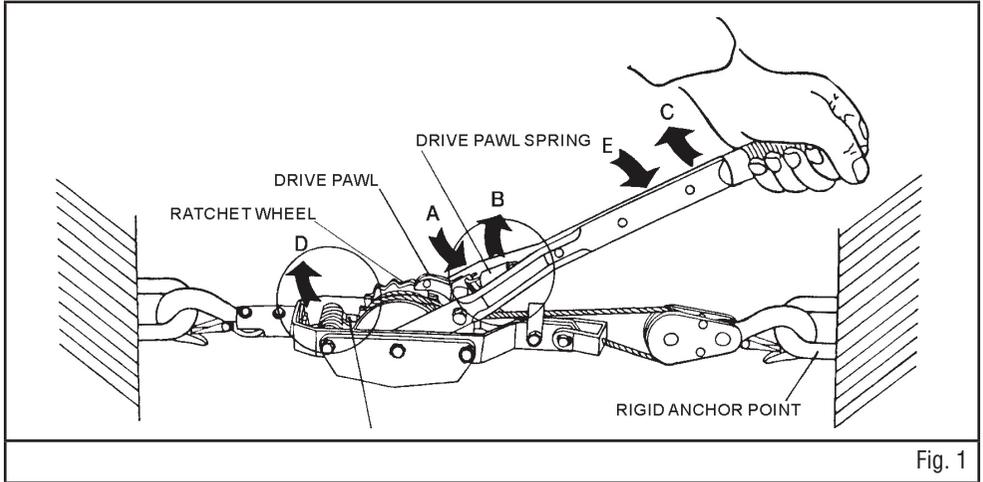

Fig. 1
1. Engage the drive pawl and the ratchet wheel by pushing the pawl spring in the direction of arrow "A". See figure 1.
2. Then raise the handle towards the direction of arrow "C". See figure 1.
2. Depress the drive pawl spring in the direction of arrow "B". See figure 1.
3. Raise the handle and hold firmly towards the direction of arrow "E". See figure 1.
4. Then depress the stop pawl in the direction of the arrow "D". See figure 1.